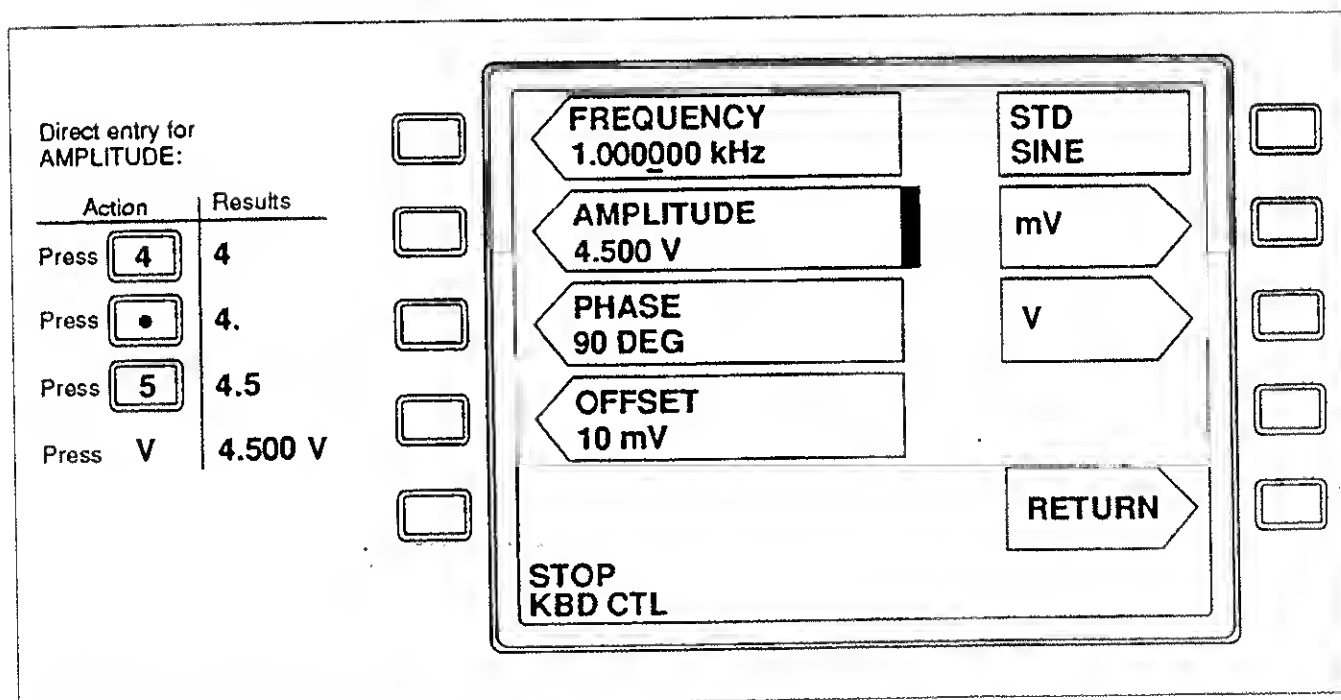

Figure 2-8. Parameter Entry Display Example
- Press AMPLITUDE in the STANDARD WAVE set-up display. Rather than change the numerical value as before, try direct numerical entry. See Figure 2-8.